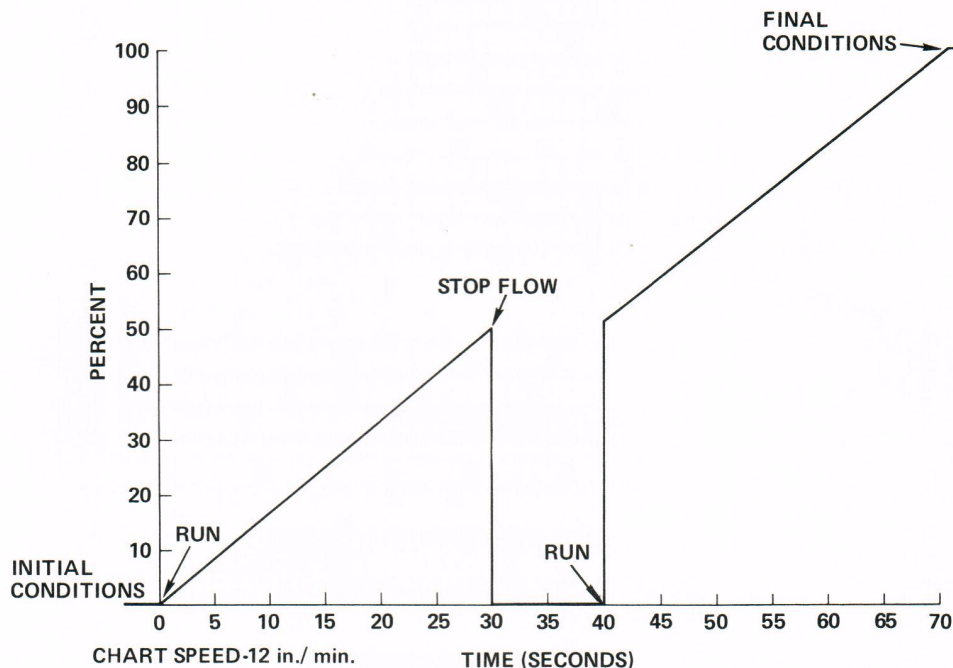

Figure 3-3. Curve '6' Profile with STOP FLOW Pushbutton Depressed for 10 Seconds
3. The recorder pen goes to ZERO (see Figure 3-3).